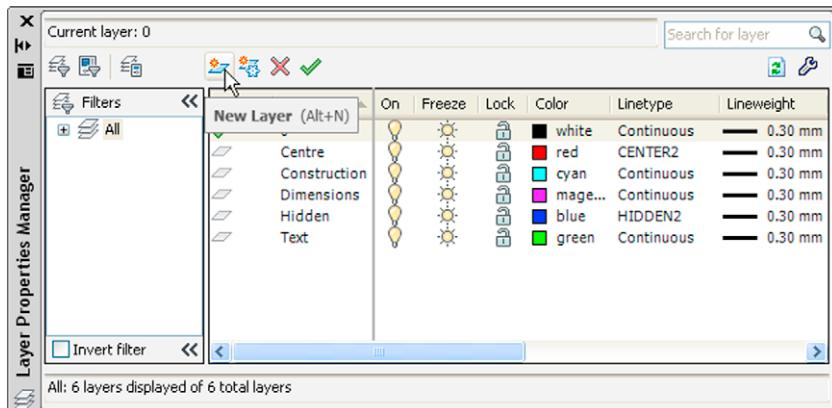

Fig. 4.16 The Layer Properties Manager palette
- At the command line `enter layer` or `la` followed by a *right-click*. The **Layer Properties Manager** palette appears (Fig. 4.16).